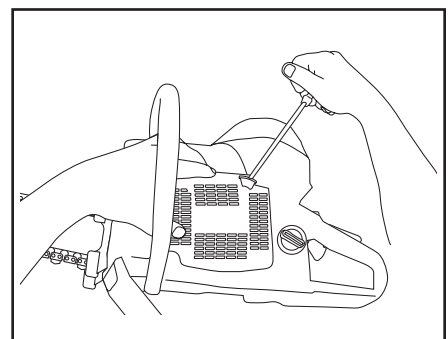

Figure 3
- To reattach the starter housing, first pull the starter cord out, then hold the starter housing against the crankcase (Figure 3). Slowly release the starter cord to enable the pulley to fit between the pawls.